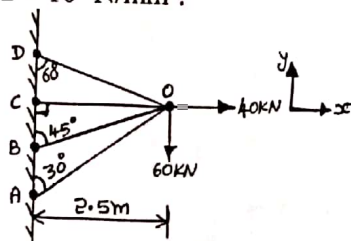

Fig.Q10
- 10 Analyze the truss joint as shown in Fig.Q10 by stiffness matrix method with system approach and also tabulate the member forces. Cross section area of all members are 1000 mm^2 and $E = 2 \times 10^5 \text{ N/mm}^2$.